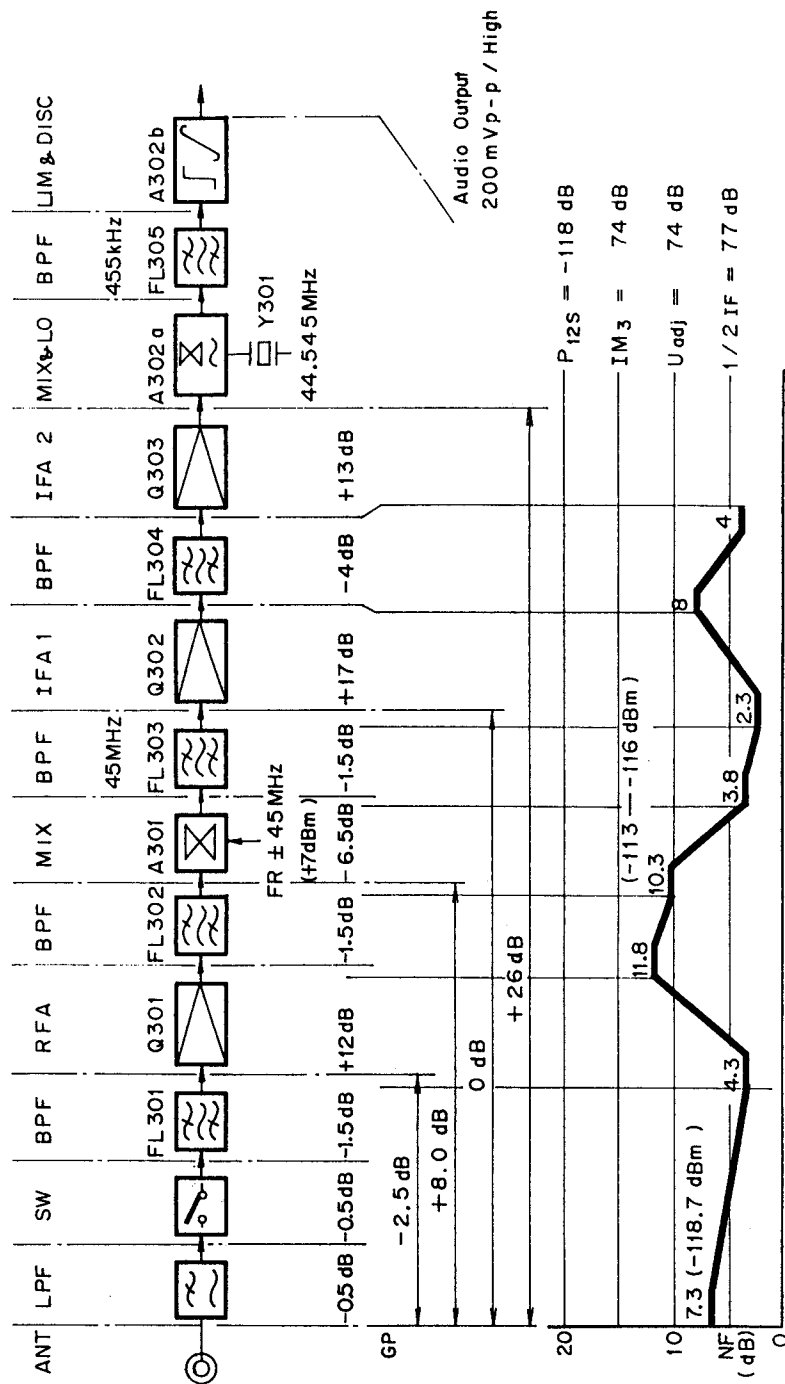

Figure 8 - Typical Level Diagram
3. When receive sensitivity is poor, refer to the radio section Schematic Diagram: A2WE03705 (VHF), A2WE03706 (UHF) or A2WE03707 (800) and typical voltages shown on Table 4. The receive section consists of low noise amplifier Q301, local oscillator amplifier Q106, first IF amplifier Q302 and Q303 and second IF circuit IC A302.
- a. Level Diagram: A Frequency Relationship Diagram is shown in Figure 7 and a Typical Level Diagram is shown in Figure 8.